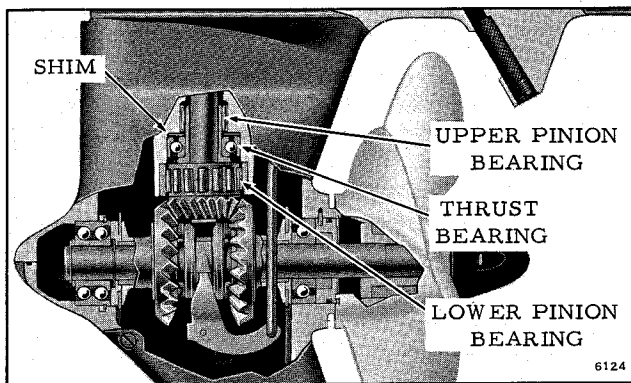

Figure 6-33. Heavy Duty Gearcase Cutaway
b. With the use of Special Tools, Driver #378737 and Tool #308100, install pinion thrust bearing, and lower pinion bearing in upper gearcase. See Figure 6-33.
Locate shim in recessed area in upper gearcase. Place lower pinion bearing on driver (either side up). Place pinion thrust bearing on driver making certain that the lettered side (flat) is towards the flange on the driver. A mallet or arbor press may be used to make this installation. See Figure 6-33.